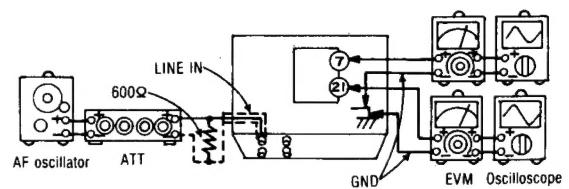

Fig. 9.
1. Test equipment connection is shown in Fig. 9.